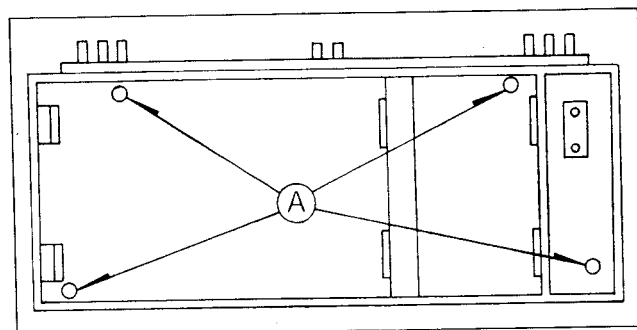

Fig. 11-1
2. Unfasten the four screws marked (A) in Fig. 11-1, then remove the accessory box.